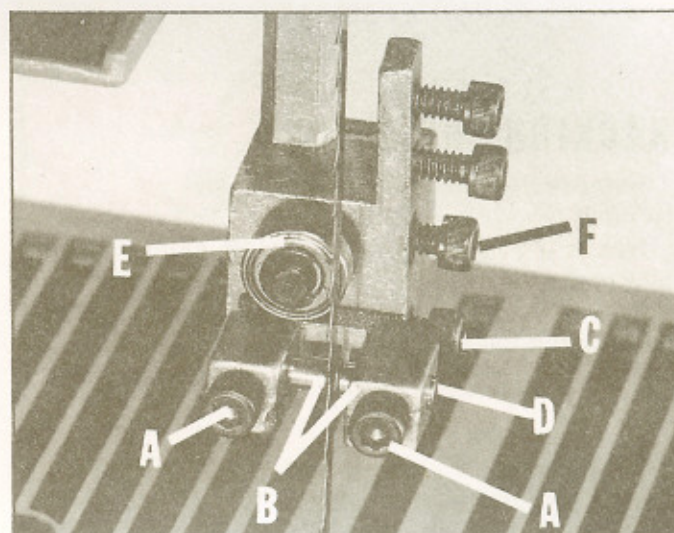

Fig. 13
1. Loosen the two screws (A) Fig. 13, and adjust the blade guides (B) as close as possible to the sides of the saw blade being careful not to pinch the blade. Then tighten the two screws (A).
2. Loosen screw (C) Fig. 13 and move the guide bracket (D) in or out until the front edge of the guides (B) are just behind the blade "gullets"
The upper blade support bearing (E) Fig. 13, prevents the saw blade from being pushed back too far while cutting. The support bearing (E) should be adjusted approximately 1/32" behind the blade, as follows:
1. Loosen screw (F) Fig. 13 and position the support bearing (E) 1/32" behind the rear edge of the saw blade. Then tighten screw (F).